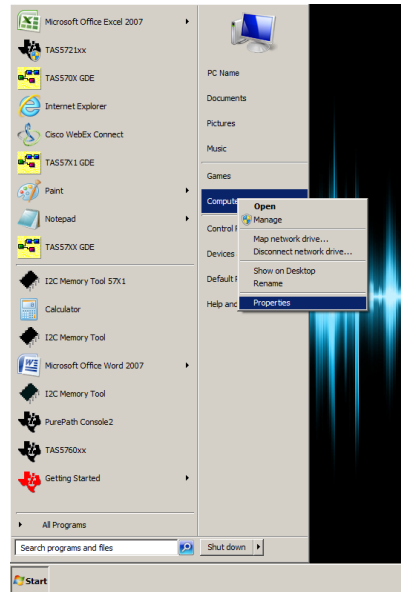

Figure 8. Selecting My Computer Properties from Microsoft® Windows® Start Menu
1. Press *Start*, then right click on *My Computer* and select *Properties*, as shown in Figure 8.